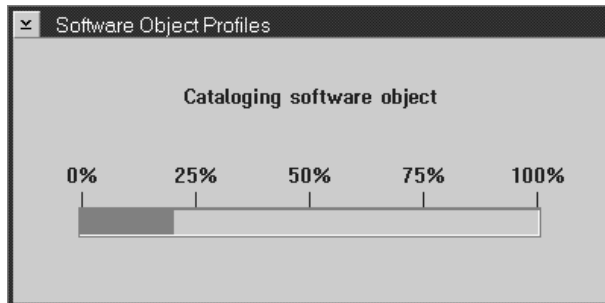

Figure 64. Software object profiles progress indicator
- 19 A progress indicator is displayed, as shown in Figure 64.